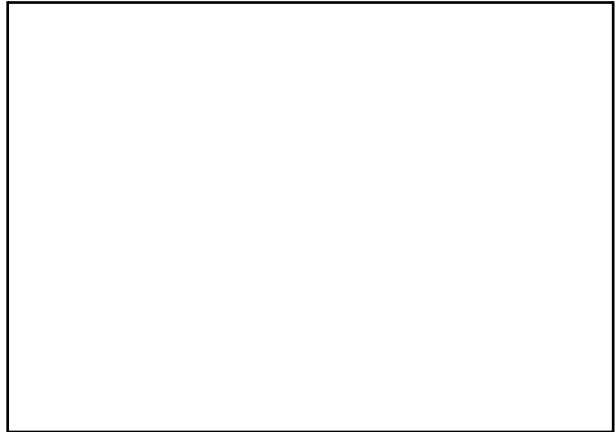

Fig. 2
- Check the oil levels. They must reach the centre of the inspection glass (3, Fig. 2).